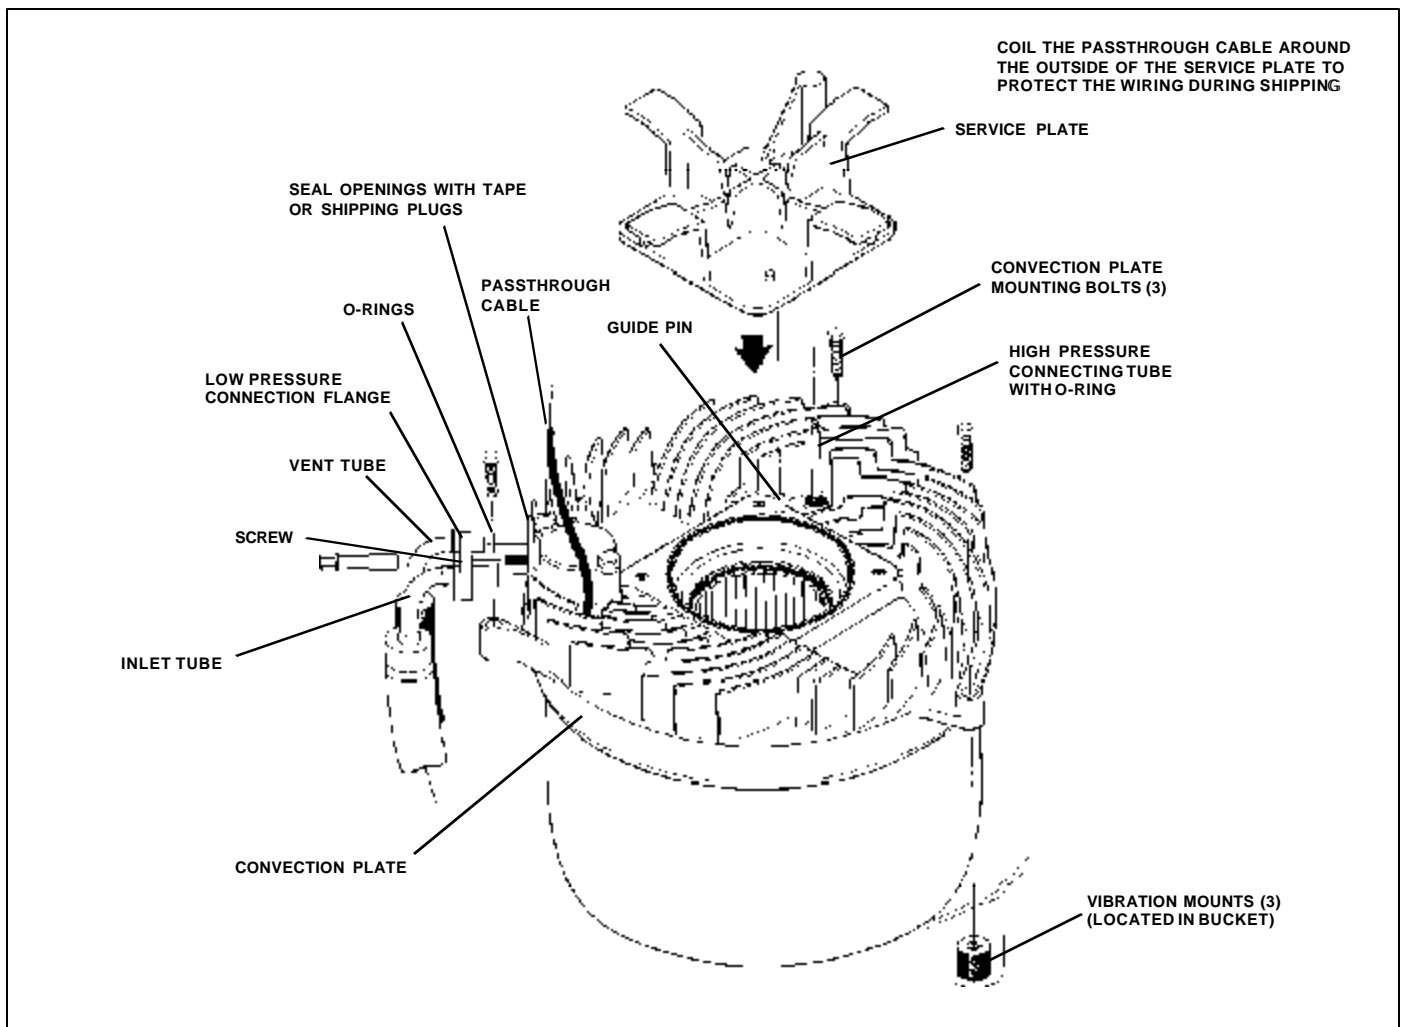

Figure 13 Control Module Removal and Replacement
- and pull the *inlet tube* and *vent tube* away from the manifold (See Figure 13).
- Remove and inspect the *O-rings* on the *inlet* and *vent tubes*; replace if damaged or hard (See Figure 13).